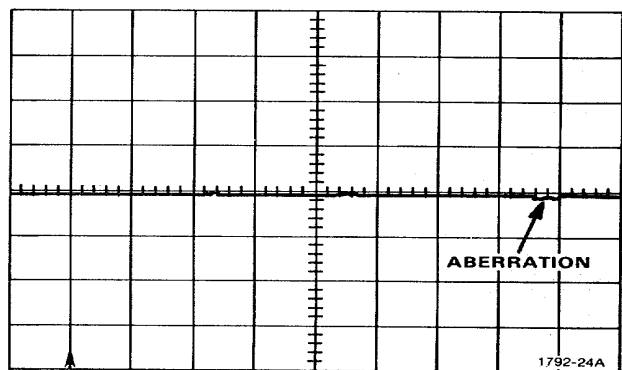

Figure 4-3. Aberration Check.
25. While viewing the trace, adjust the DISTANCE dial from 000 to 100. The trace aberrations must remain within  $\pm 1$  division of the centerline ( $\pm 5\%$  peak aberrations for the first 10 feet). See Fig. 4-3.
53. While viewing the trace, adjust the DISTANCE dial from 000 to 050. The trace aberrations must remain within ±1 division of the centerline (± 5% peak aberrations for first 3 metres.) See Fig. 4-3.